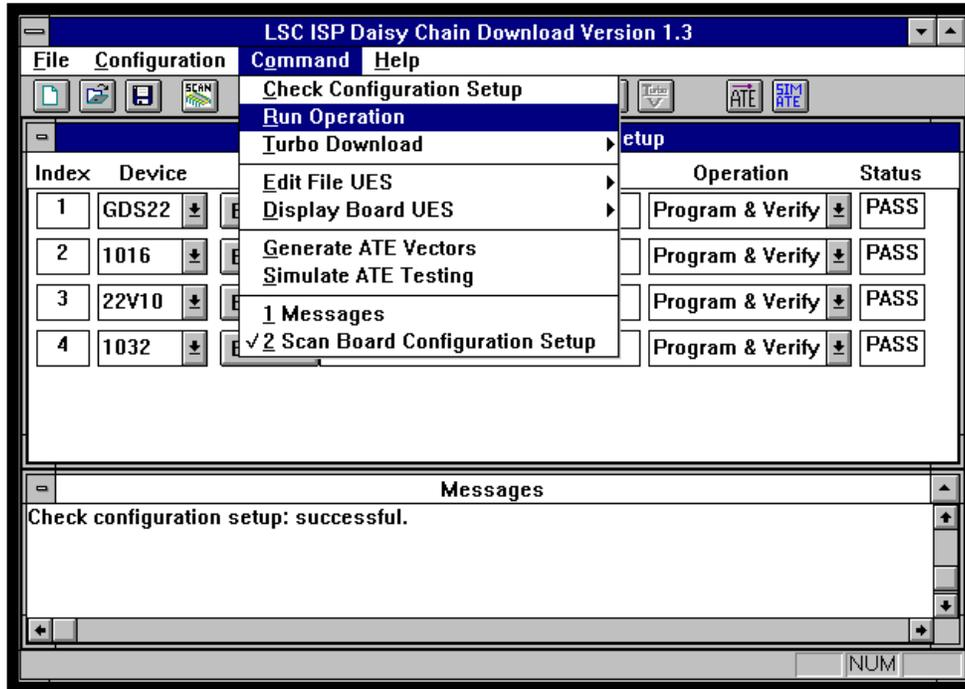

Figure 3-11. **Command** ⇒ **Run Operation** Menu Option
1. Select **Command** ⇒ **Run Operation** or click the **Run** icon from the ISP Daisy Chain Download menu to program the device(s) with your design file(s) (Figure 3-11).